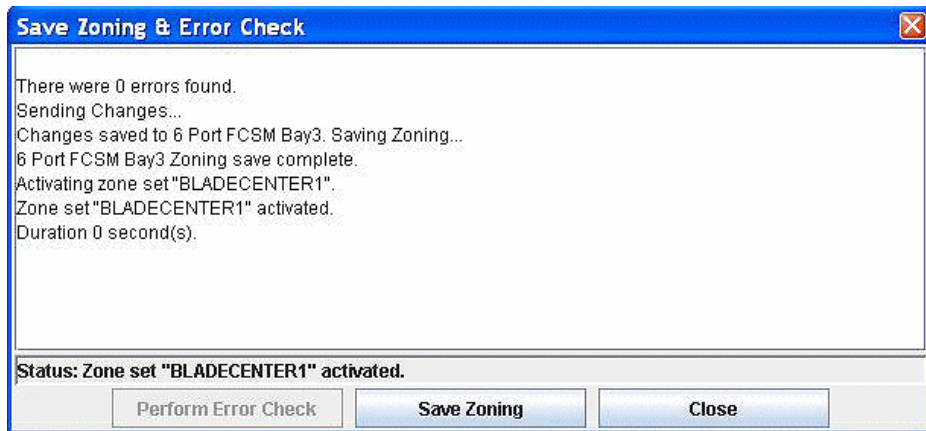

Figure 9-29 Zone set activated
15. Select the zone set to be activated and click **OK**. You will see a window similar to Figure 9-29.